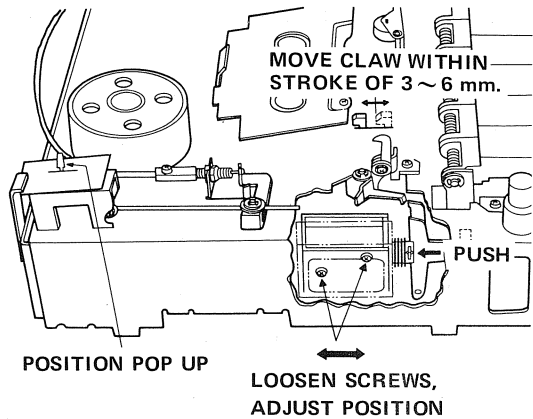

Fig. 12
3. Refer to Fig. 12. Push solenoid core inward by hand. Its stroke of lever connected to core should be 3~6 mm, and it should move smoothly.
4. To adjust, loosen the two screws (Fig. 12), adjust position of solenoid to obtain proper core stroke, then tighten screws again.